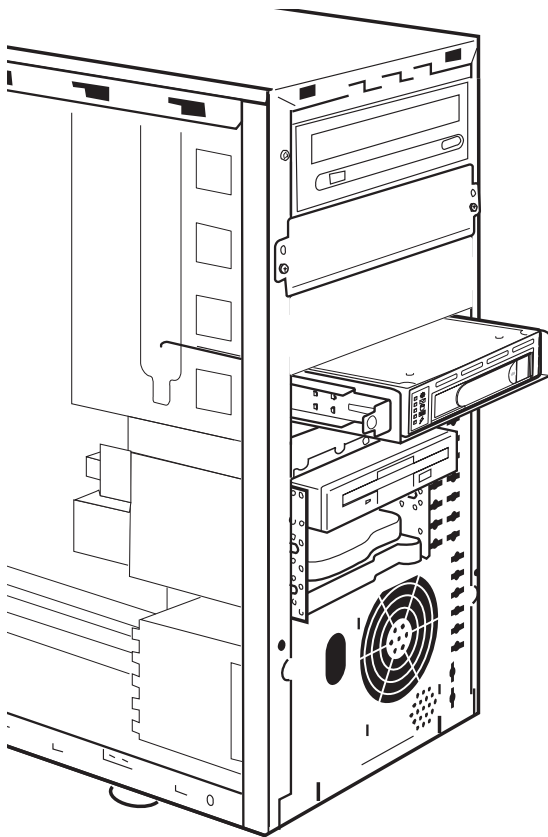

Figure 4. Installing the CP 3100
5. Install the CP 3100 in the mounting bay by sliding the unit through the front of the computer (see Figure 4 on page 25).